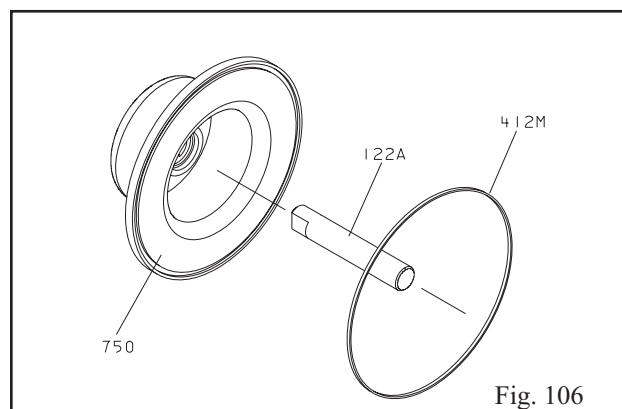

Fig. 106
3. Press shaft (122A) into containment shell (750) (Fig. 106).
4. Coat O-ring (412M) with O-ring lubricant. The lubricant is used to help the O-ring remain in place. Insert O-ring in containment shell (750). (Fig. 106).